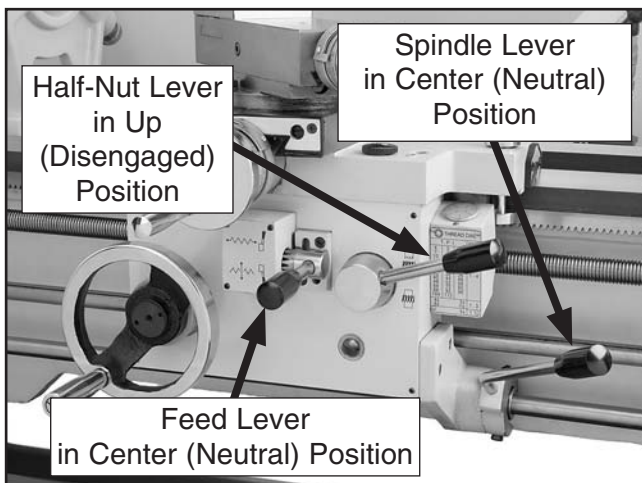

Figure 13. Carriage controls correctly setup for the **Test Run**.
6. To keep the carriage components from moving during the remaining steps, set the carriage controls as follows (see **Figure 13**):
9. Verify that the machine is operating correctly by moving the spindle lever down (see **Figure 13**).